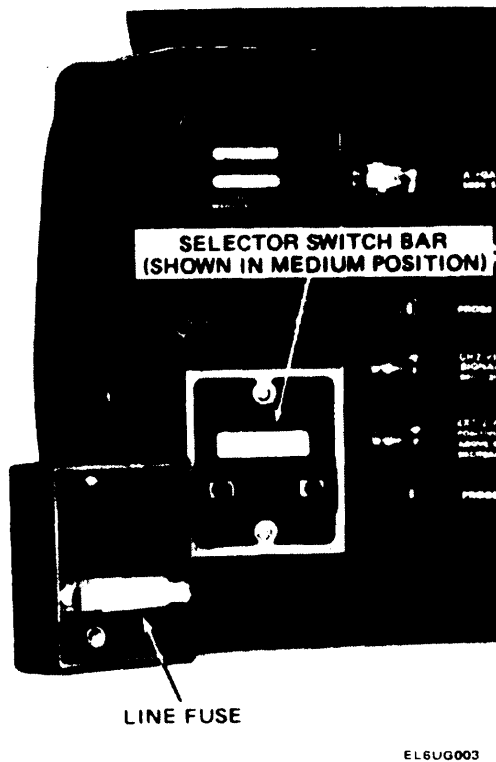

Fig. 2-1. Regulating Range Selector and Line Fuse.
**Power Requirements.** The oscilloscope is designed to be operated from either a 115-volt nominal or 230-volt nominal line voltage source. In addition, one of three operating ranges may be selected around each nominal line voltage. The voltage selector jumper on the rear panel (figure 2-1) allows selection of the operating voltage. With option 07 installed, the oscilloscope may be operated from either a 12 vdc or 24 vdc power source.
5. Check Table 2-1 for the recommended range position of the Range Selector Switch Bar (see Figure 2-1). Select a range which is centered about the average line voltage to which the instrument is to be connected. The middle position ("M") is a typical setting.